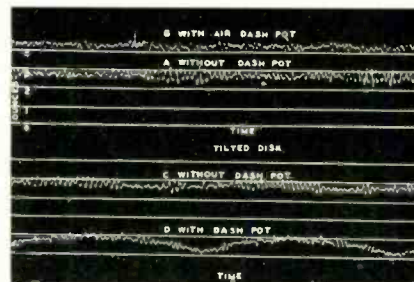

Fig. 8. Oscillograms showing cutter bounce and improvement obtained with an air dashpit.
Vertical oscillation or bounce was readily encountered as evidenced by the results shown in the oscillograms of *Fig. 8*. Means were then studied for minimizing it.
system. *Figure 8 (A)* shows a recording of the vertical oscillation at 78 r.p.m., and *Fig. 8 (B)* shows how it was reduced by means of an air dashpot. The dashpot is effective, but suffers a disadvantage when the disk is tilted due to warpage or turntable wobble.
If enough resistance is used to reduce the oscillation effectively, it may cause the recording head to act sluggishly on warped disks and cut a groove of varying depth. *Figure 8 (D)* shows the force variation with the dashpot on a 16-inch lacquer disk which was tilted 0.025 in. to simulate the motion produced when the blank is warped. The once-around variation in force, due to the tilt, is plainly evident. It is interesting to note that the average force without the dashpot, *Fig. 8 (C)*, shows almost no variation, thus illustrating the self-regulating action of the recording head even with the disk tilted.